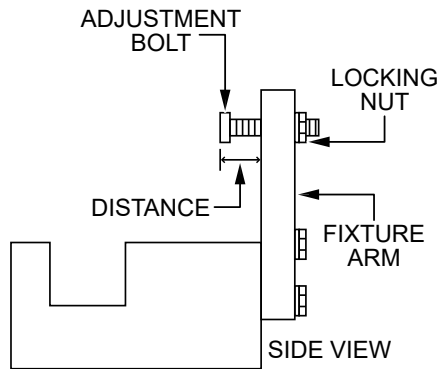

Figure 55. Trowel Arm Adjustment Tool (Side View)
Figure 55 illustrates a **trowel arm adjustment tool**. As a trowel arm is locked into the adjustment tool, the trowel arm bolt is adjusted to where it contacts a stop on the fixture. This will consistently adjust all of the trowel arms, keeping the finisher as flat and evenly pitched as possible.
3. Adjust the fixture **adjustment bolt distance** shown in Figure 55 to **0.15 in. (3.81 mm)**.